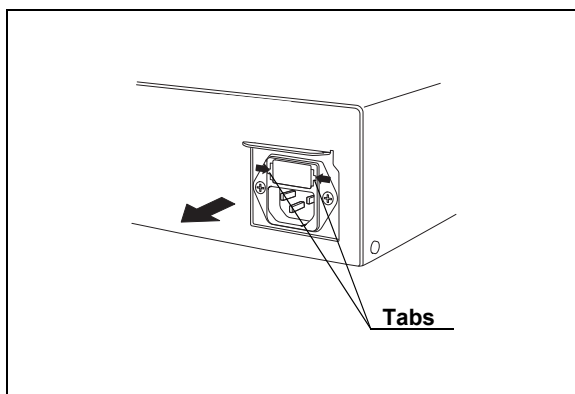

Figure 6.1
2. Pull the fuse box straight out, squeezing the tabs projected on both sides of the fuse box using a pair of tweezers (see Figure 6.1).